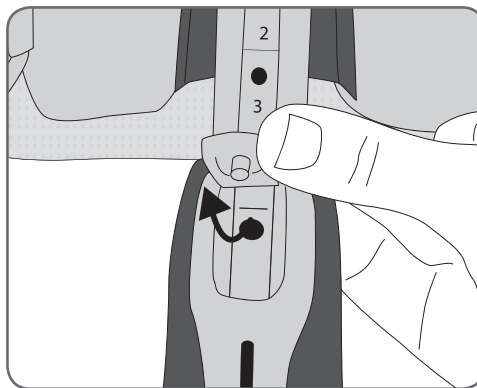

Figure 8-31: Opening the flap on the elongation bar.
1. Open the flap on the elongation bar. See Figure 8-31.